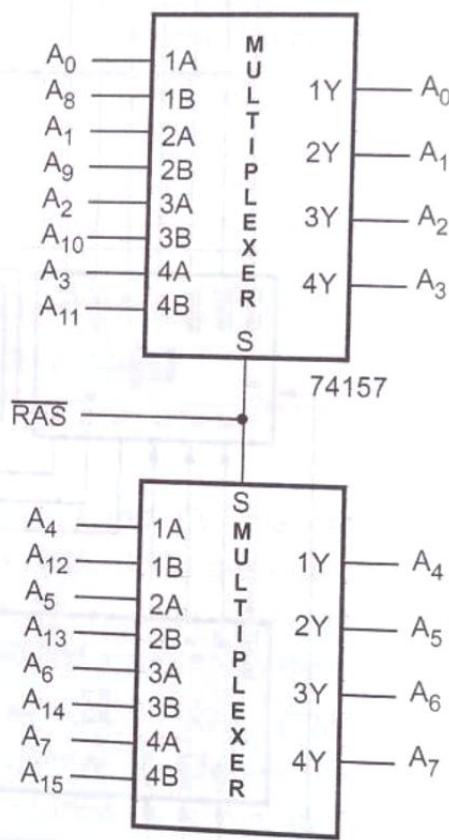

Fig. 3.3.2 Address multiplexer for 64 × 4 DRAM (TMS4464)
- Fig. 3.3.2 shows the circuit for multiplexing $A_0 - A_7$ and $A_8 - A_{15}$ address lines. Here, \overline{RAS} line is used to strobe row address into the DRAM. When \overline{RAS} is low row address is strobed and when \overline{RAS} is high column address is strobed into the DRAM.